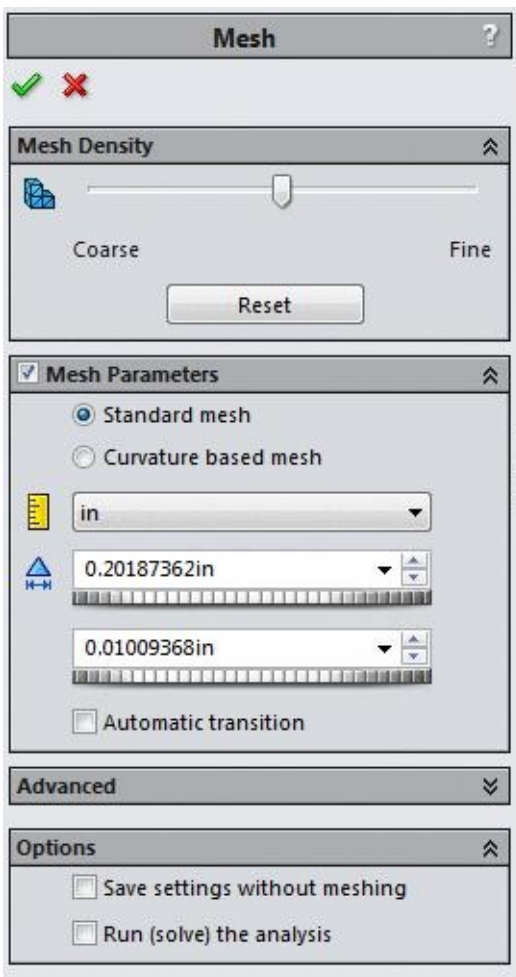

Figure-82. Mesh PropertyManager
- Click on the **Create Mesh** button from the **Run** drop-down in the **Ribbon**. The **Mesh PropertyManager** will be displayed as shown in Figure-82.